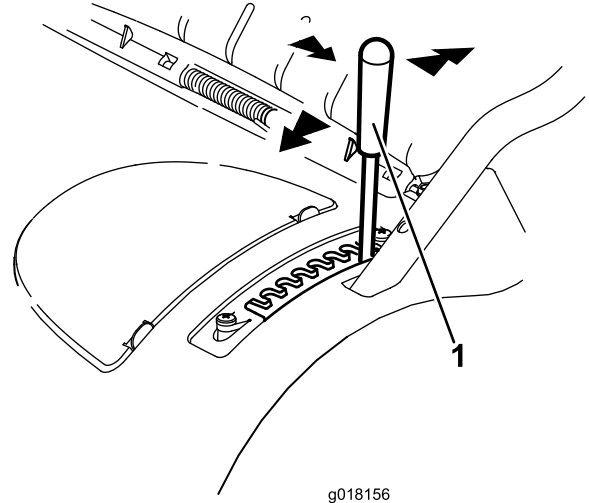

Figure 11
1. Grip the lever and pull sideways to disengage it from the locking notch (Figure 11).
2. Push the lever forward to lower or pull it backward to raise the height of cut (Figure 11).
3. Release the lever at the required position and ensure that it locks firmly into 1 of the 8 setting notches (Figure 11).